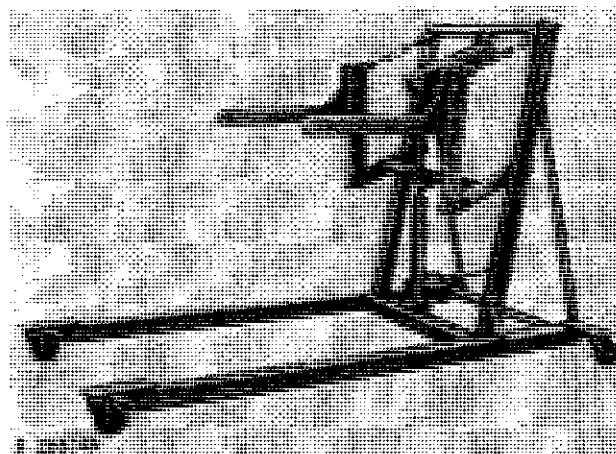

Fig. 7-Brown Body Lift
**Install Ether Aid Solenoid Wiring (if equipped)***Fig. 7-Electric Starting Aid Connector*